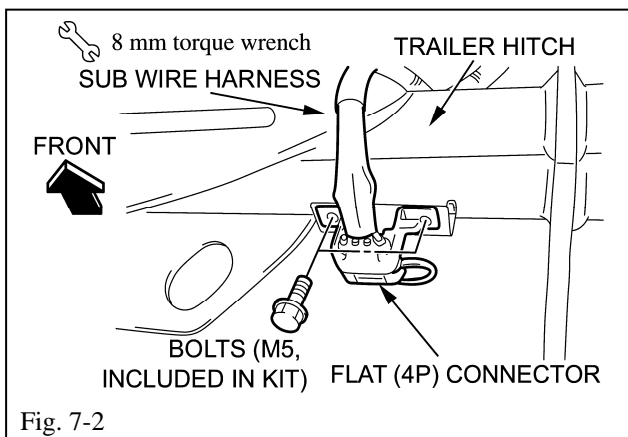

Fig. 7-2
- (1) Fasten flat 4-pin connector with 2 bolts (M5) (included in kit). (Fig. 7-2)
- (2) Torque bolts to: 3.9 N•m [36 lbf•in] (Fig. 7-2)